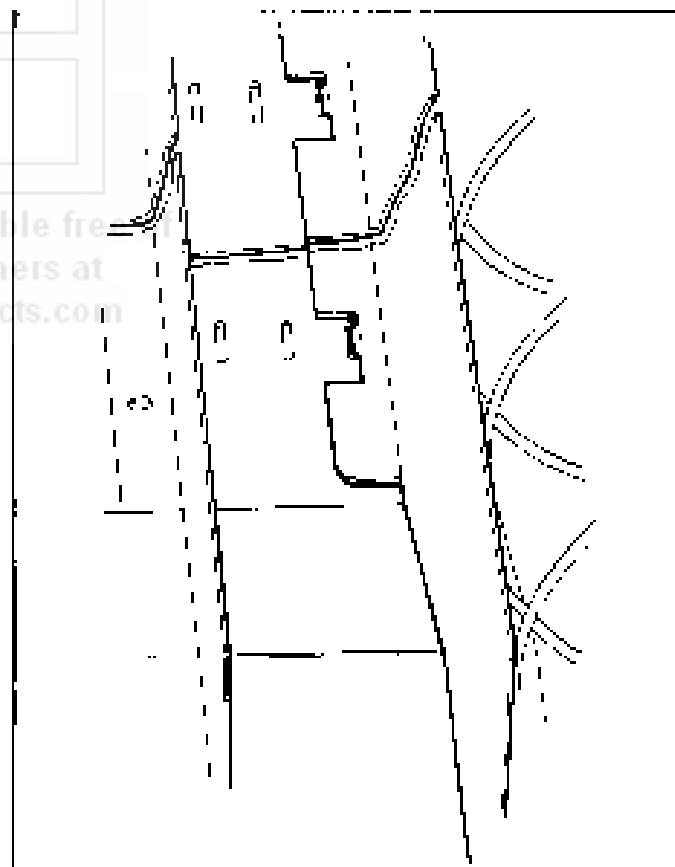

Figure 4. ALIGNMENT OF MOVEABLE PRODUCT SPACERS
6. **PRODUCT SPACERS - 5 SELECTION SHELF:** A product spacer is used to reduce the width of the product area and should be used on any 5-selection snack shelf where the product width is $4\frac{1}{8}$ " or less. Spacers should fit within $\frac{1}{8}$ " of the product but should not fit tight against the product. There are three positions in each snack space where these spacers can be placed. To install the spacer, align the lock ears (on the lower edge of the spacer) with one of the three sets of slots (one front and one rear). (See Figure 4). Push the spacer to the rear to allow the ears to enter the slots, then allow the spacer to move forward. Be sure the ears are in the same set of slots, front and rear. (See Figure 4). Continue loading all spirals adjust with spacers where needed in the top shelf. Return the top shelf to the vend position and following this procedure load the remainder of the large spiral shelves. The shelf divider separating the right (lock side) column from the next column is movable to allow vending of products wider than $5\frac{1}{2}$ " in the second column. If this is used the right column must be used to vend a narrower product.